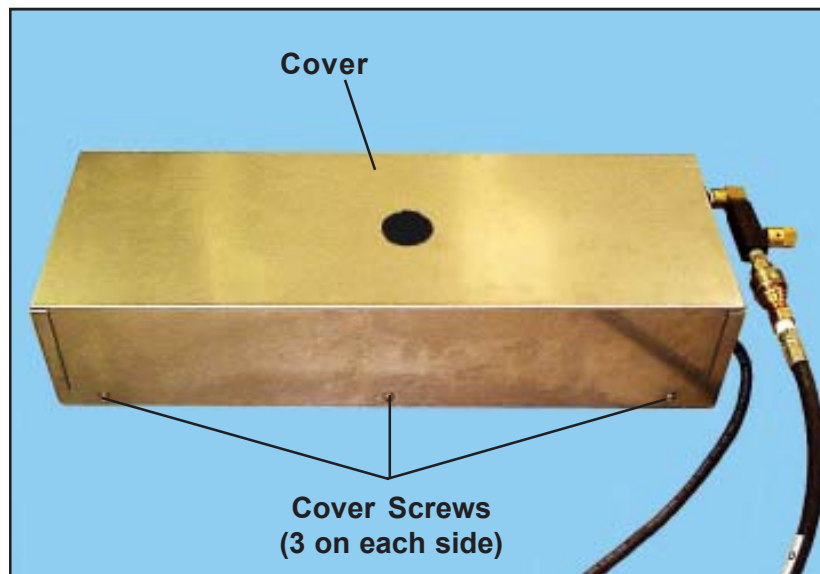

Figure 35. Hydraulic Power Pack
18. With a Phillips screwdriver, remove the six screws that hold the power pack cover in place (Figure 35).